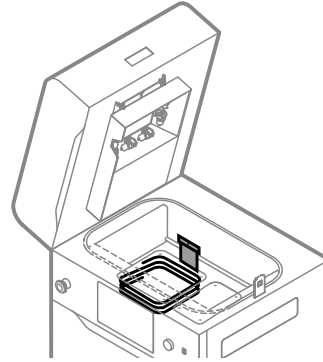

Fig. 12.39 Use a plastic spatula to press down the sealing.
20. Use a clean, plastic spatula while pressing down the fibreglass rope (fig. 12.39).